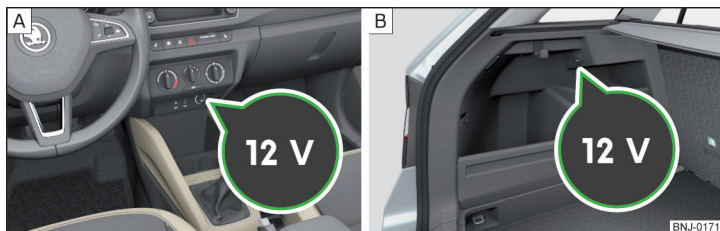

Fig. 71 12-volt power outlet: in the central part of the panel / in the luggage compartment
Installation locations for the 12-volt power sockets » Fig. 71
► Remove the cover on the power socket » Fig. 71 - **A** or open the cover on the power socket as appropriate » Fig. 71 - **B**.